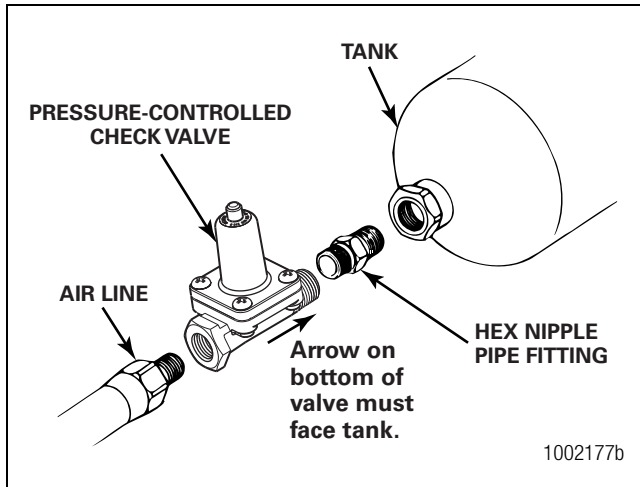

Figure 2.17
1. Before replacing, look at the arrow on this valve. You must install the valve so that the arrow faces the tank on which it is installed. Figure 2.17.